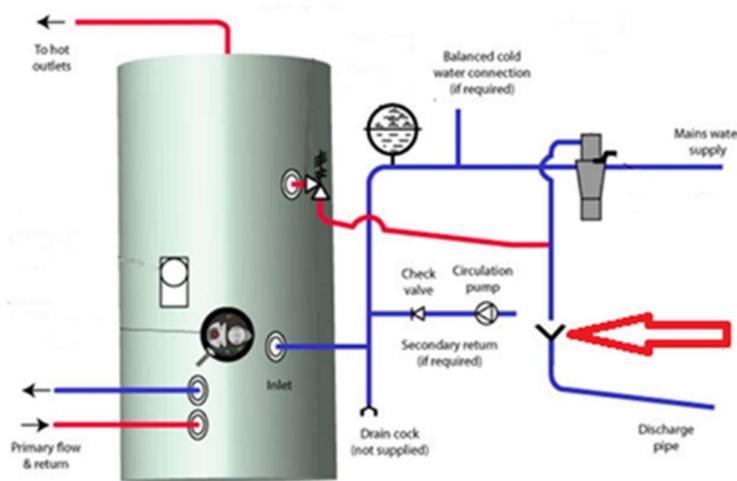

Figure 2
a) Identify the component in Figure 2 and determine the length of the discharge pipework (D2) from the table below.